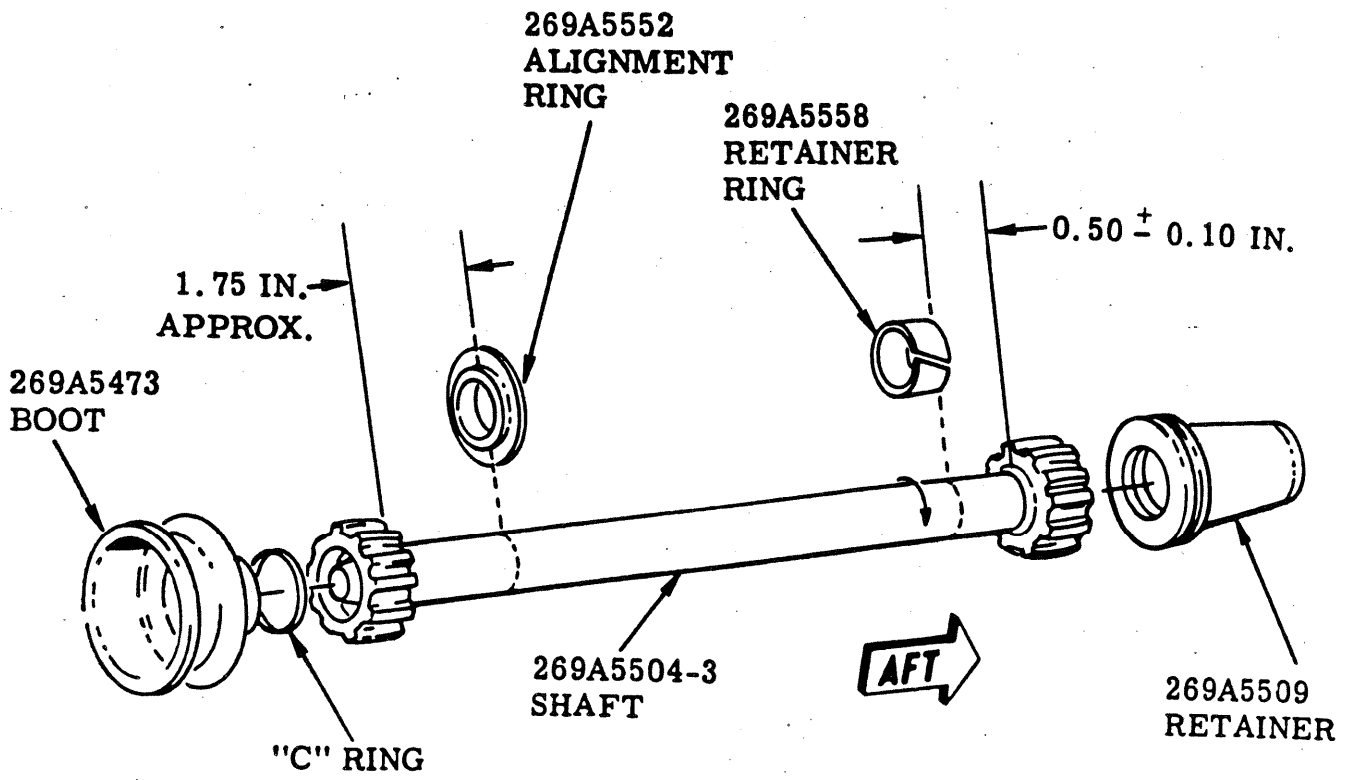

FIGURE 1. LOWER COUPLING DRIVE SHAFT ASSEMBLY.
- e. Cut lockwire securing alignment ring to shaft. (See Figure 1)